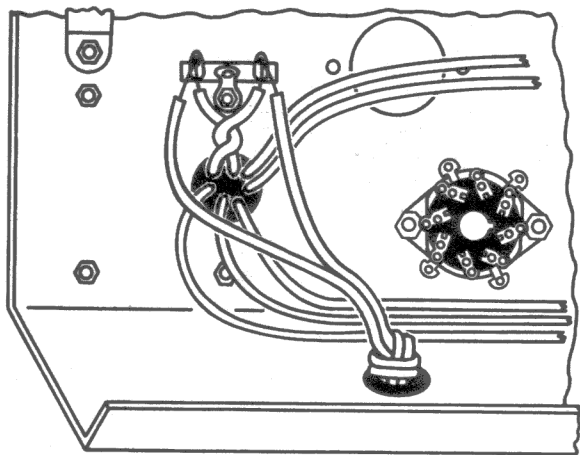

Fig. 17-5
Step 1. Turn the receiver chassis upside down on the 2" x 4" wooden blocks. Place the octal socket over the socket mounting holes on the chassis, as shown in Fig. 17-5. See that the keyway is farthest from the power transformer.